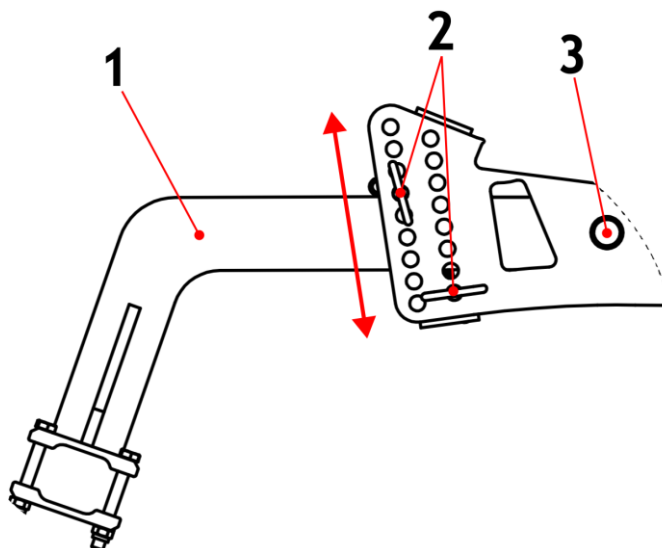
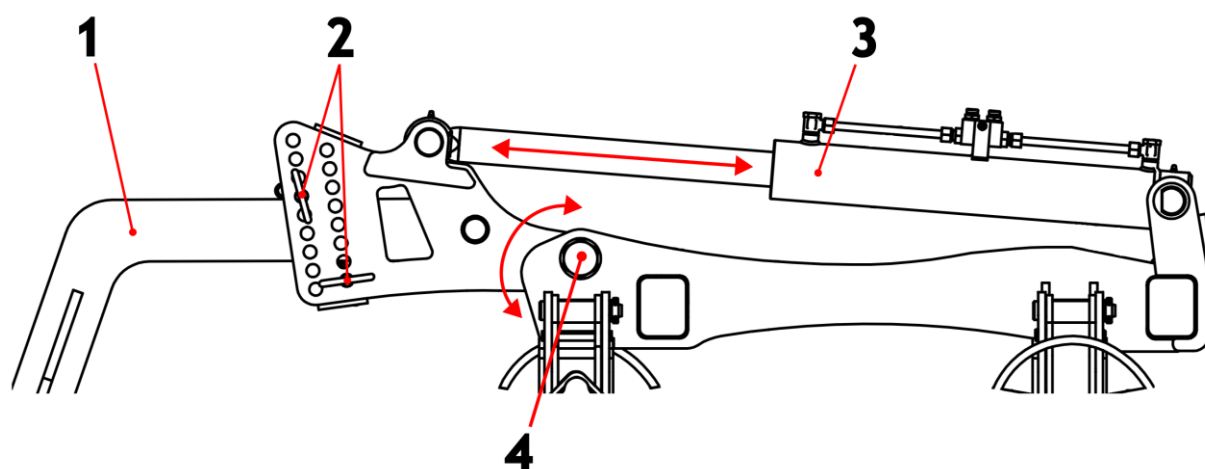

Figure 32 Roller arm attachment (1 - roller arm, 2 - work depth adjustment pins, 3 - hole for pin attaching arm to frame mount)
Figure 33 Hydraulic roller lift (1 - roller arm, 2 - working depth adjustment pins, 3 - actuator, 4 - arm pivot pin)
The **working depth of the GAL-E disc harrow** is determined by the position of the roller, whose arms are locked in the holders with pins (fig. 32, item 2). Initially, the roller should be set above the lower edge of the discs at a height that roughly corresponds to the anticipated working depth, and the setting should be adjusted during the work once the roller's settlement has been taken into account. A hydraulic lifting system is used to change the position of the roller (fig. 33). To raise the roller, the piston rod of the actuator must be pushed in (fig. 33 item 3), and when the roller needs to be lowered, the piston rod must be pulled out. Any movement of the roller during operation is prevented by pins in the ladders (fig. 32 item 2).